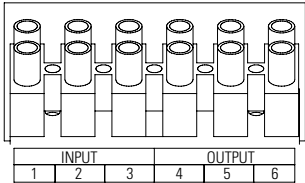

Figure 22. Terminal Block
- 6. Connect the input and ground wires to the input terminal block according to Figure 22 and Table 1.
- 7. Connect the output and ground wires to the output terminal block according to Figure 22 and Table 1.